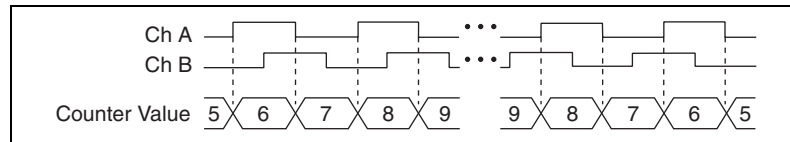

Figure 8-15. X2 Encoding
- X2 Encoding**—The same behavior for X1 encoding holds for X2 encoding except the counter increments or decrements on each edge of channel A, depending on which channel leads the other. Each cycle results in two increments or decrements, as shown in Figure 8-15.